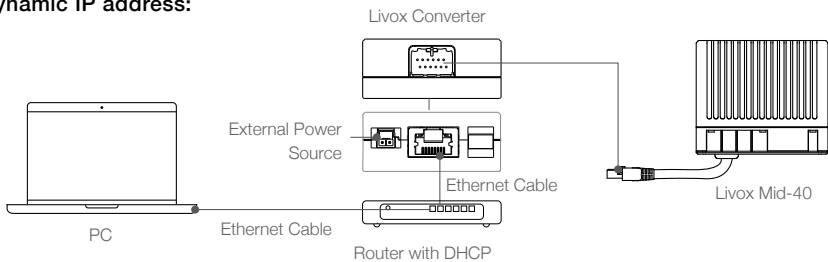

Figure 4.2.1 Connecting using dynamic IP address
1. Connect the Livox Mid-40, Livox Converter, router, external power source, and computer by following Figure 4.2.1.